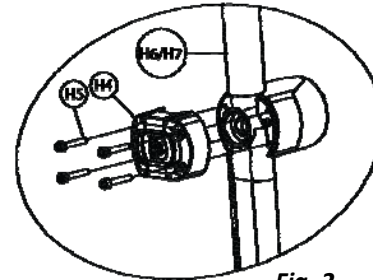

Fig. 2.
11. The handlebar pivot fixing hardware will be pre-installed on the console mast (C) as shown in **Fig. 2**. Remove bolt **H1** and washer **H2** from the left and right sides of the pivot axle, and set aside.
13. Handlebars (**H6 & H7**) are packaged with the pivot covers (**H4**) installed. Remove the four (4) hex fixing bolts (**H5**) and pivot cover (**H4**) from each handlebar as shown in **Fig. 2**. and set aside.